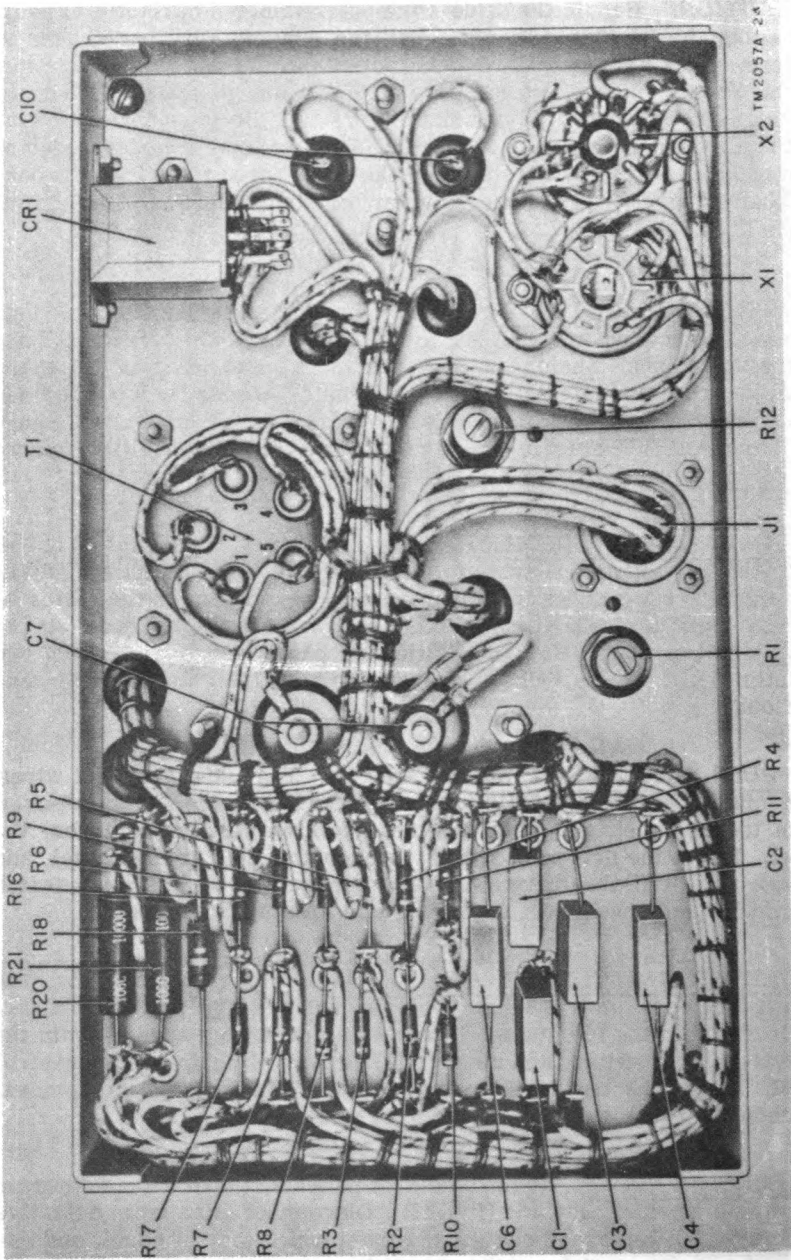

Figure 26. Test Set TS-27B/TSM, bottom view of chassis.
h. TRANSFORMER T1. Remove the chassis from the case (par. 41), and remove the instrument panel from the chassis (subpar. b above). Disconnect the lead from the transformer terminals, on the bottom of the chassis (fig. 26). Loosen the four mounting nuts on the bottom of
i. **CAPACITOR C7.** Remove the chassis from the case (par. 41). Remove the instrument panel from the chassis (subpar. b above). Disconnect the leads from the capacitor terminals on the bottom of the chassis (fig. 26). Loosen and remove the two mounting nuts on the bottom of the chassis, lift the mounting brackets from the top of the chassis, and remove the capacitor. Install the new capacitor by reversing the removal procedures.
j. **OTHER PARTS.** Parts, such as resistors, varistors, capacitors, receptacles, etc., are readily replaced and require no special instructions. In some instances, for example in the case of variable resistors, one-hole mounting is used and it is necessary merely to loosen the hexagonal nut to remove the component. In other cases the part may be held in place by mounting screws and nuts. An examination of the part to be replaced will show the method to be followed in making the change. Figures 26 and 27 show the bottom and top of the chassis respectively. After installing new parts, check the circuit with the wiring diagram of figure 21.